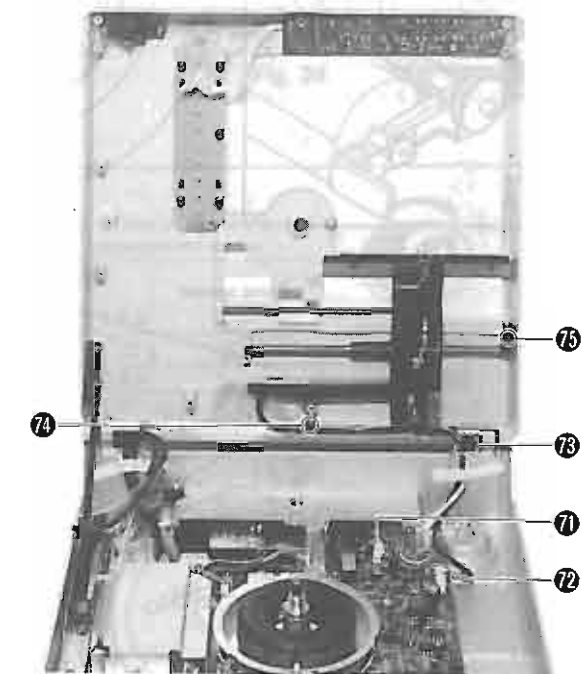

Fig. 18
3. Remove the two connectors ⑱ (PHONO IN) and ⑲ (CN204) of the drive P.C.B.; remove the bushing ⑳ and lead clamber setscrew ㉑ of the upper cabinet. (See Fig. 18)
4. Remove the guide rail setscrew ㉒ of the tonearm; then the tonearm unit can be removed. (See Fig. 18)